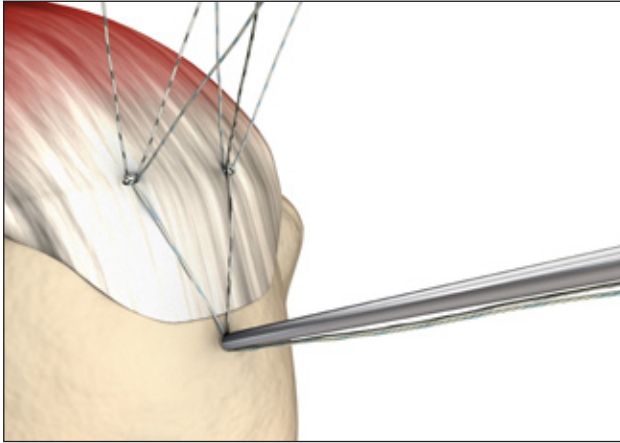

Figure 10
- a. Maintain a slight downward pressure on the inserter handle and remove the free ends of the sutures from the inserter handle. Manually pull sutures (individually or together) to apply the desired tension (Figure 10).